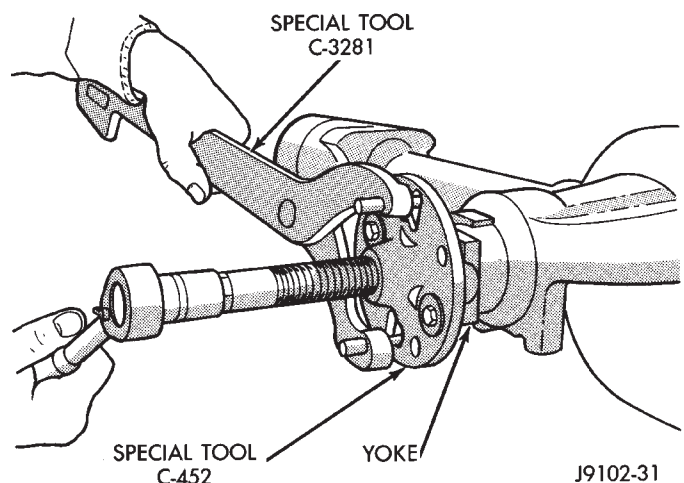

Fig. 45 Pinion Yoke Removal
(5) Using Remover C-452 and Wrench C-3281, remove the pinion yoke from pinion shaft (Fig. 45).